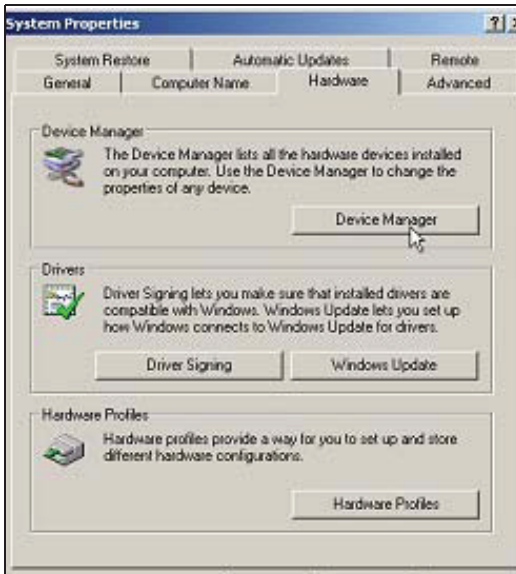

Figure 15: Hardware Tab
4. Click on the Device Manager button (Figure 15 below).